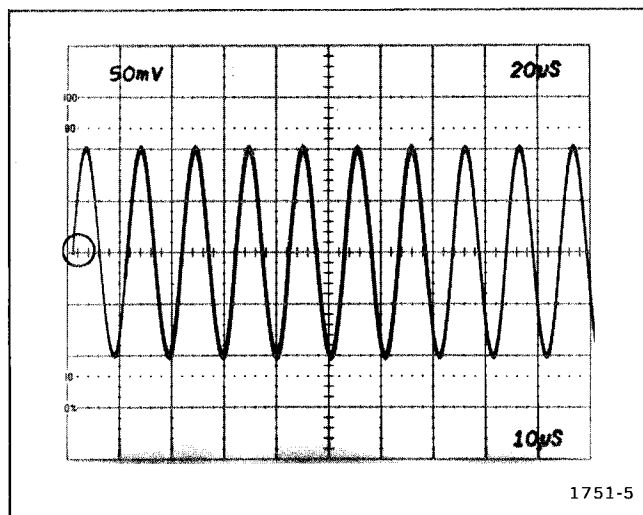

Fig. 5-5. DC balance. (Circle denotes correct trigger point).
b. Adjust—Int DC Bal, R75, for a sweep trigger point at graticule centerline (TRIG'D light on). See Fig. 5-5 for reference.
- b. Adjust—Ext DC Bal, R99, for a sweep trigger point at graticule centerline (TRIG'D light on). See Fig. 5-5 for reference.
- f. Adjust—Int DC Bal, R255, for a sweep trigger point at graticule centerline (TRIG'D light on). See Fig. 5-5 for reference.
- b. Adjust—Ext DC Bal, R230, for a sweep trigger point at graticule centerline (TRIG'D light on). See Fig. 5-5 for reference.